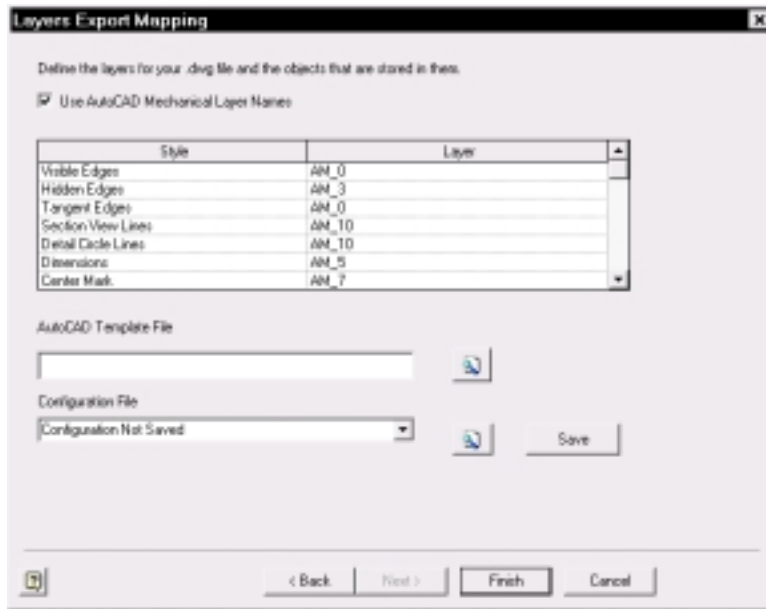

Figure 1-15
8. In the Layers Export Mapping dialog box, select the Finish button. (See Figure 1-15.)